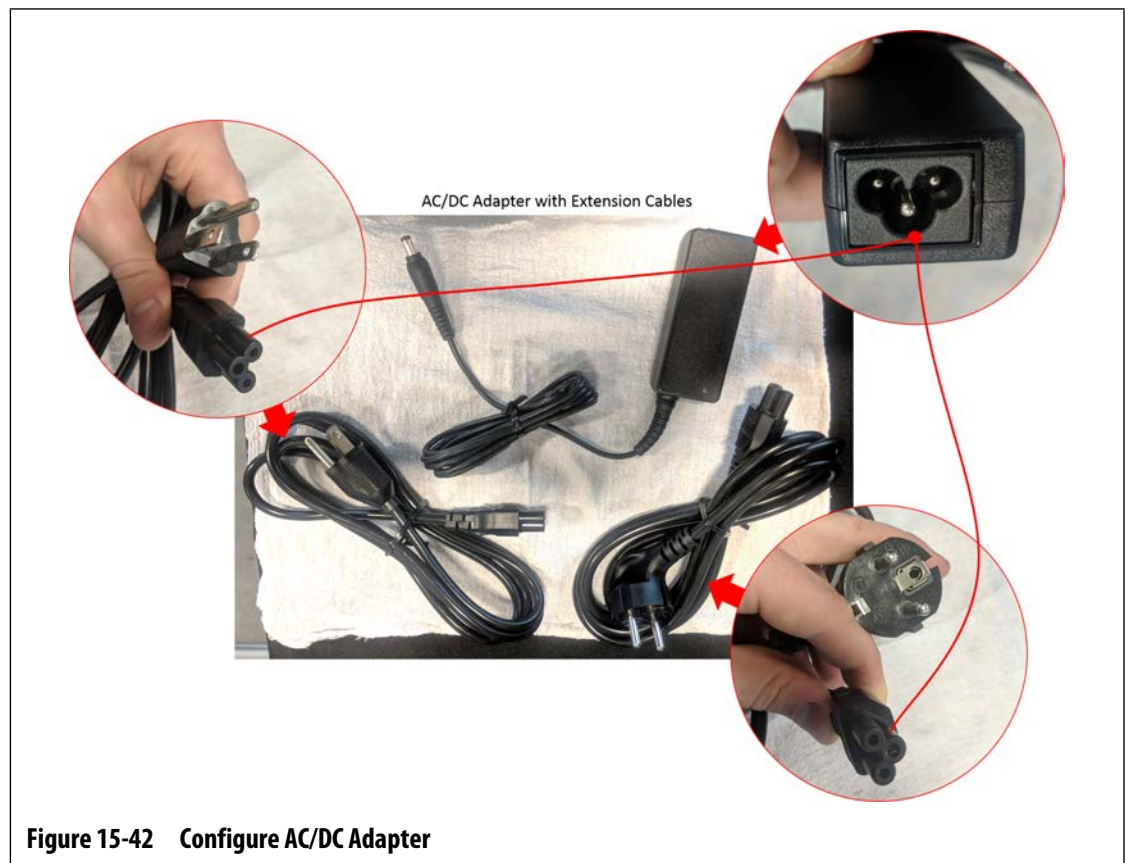

Figure 15-42 Configure AC/DC Adapter
8. Configure the AC/DC Adapter for the extension cable plug type that is compatible with the electrical outlet where it will be connected. Refer to Figure 15-42.